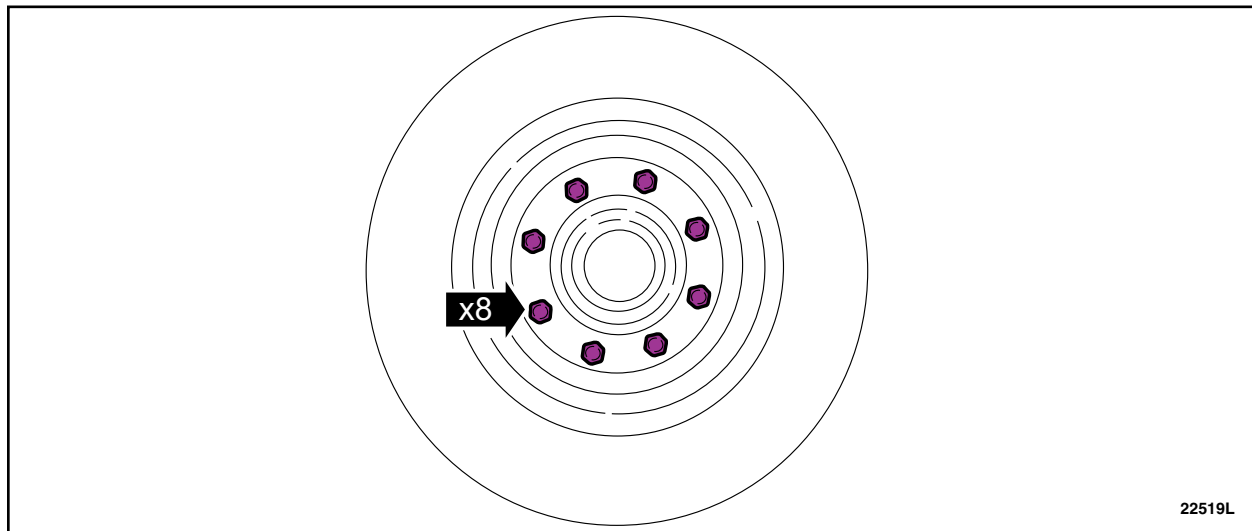

FIGURE 11
11. On the wheel hub and rotor assembly that **PASSED** inspection, remove the 8 bolts and separate the rotor from the wheel hub. Discard the rotor and rotor bolts. See Figure 11.